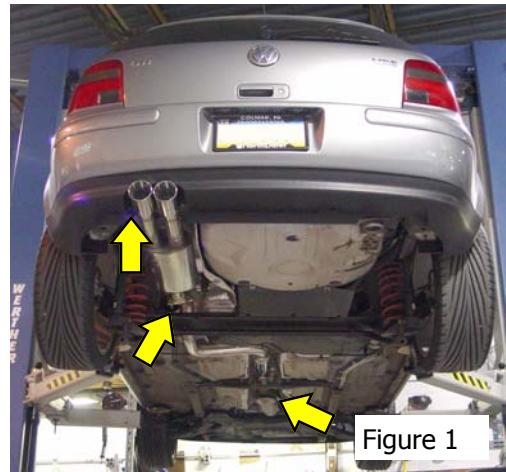

Figure 1
3. Note that there are several adjustment points on the AWE exhaust to ensure proper fitment. Also note that the factory exhaust hangers are also adjustable with slotted bolt holes to allow further adjustments. Adjustment points on the AWE exhaust system are at arrows in Figure 1.